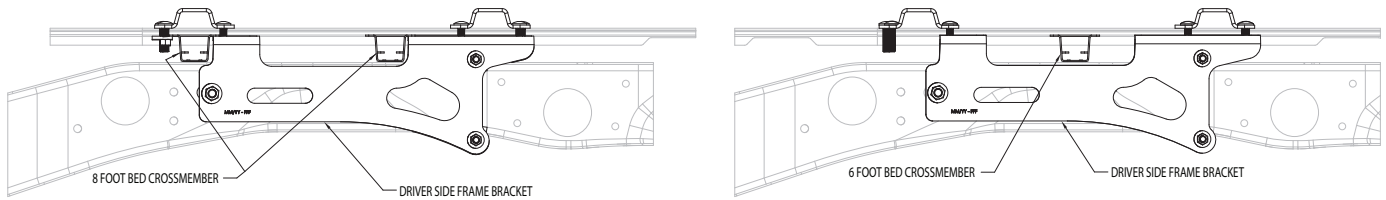

Fig. 1
- Position Driver side and Passenger side frame brackets along frame as shown in (fig. 1), ensure punch marks line up with the slots in the mounting bracket. Adjust punch marks if required and drill\* 1/8 holes. Check that all holes align with slots of the mounting bracket. Remove mounting bracket. Enlarge hole to 9/16"\*